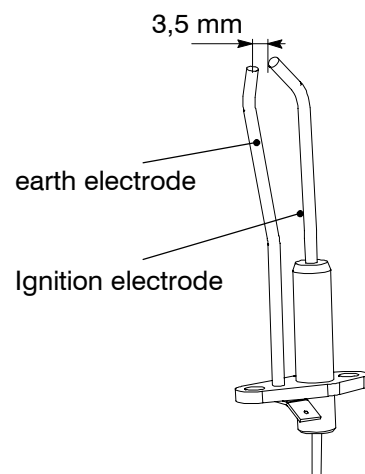
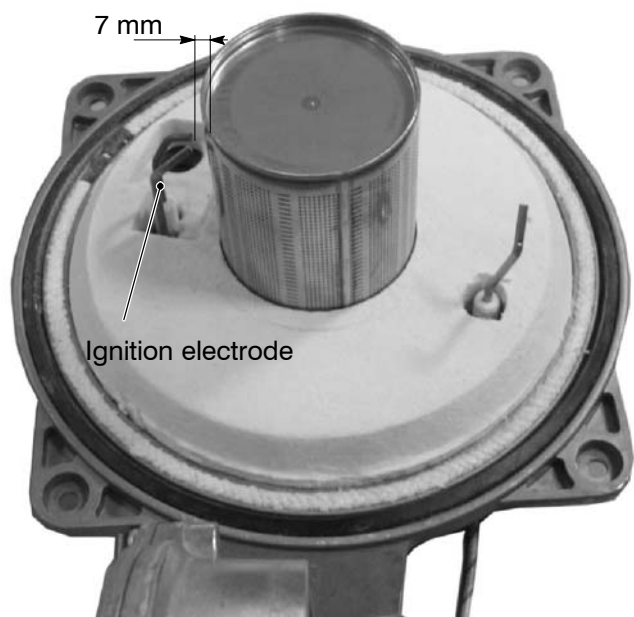

Fig. 18.9
Fig. 18.10
- 2 Check for the correct distance between the metallic edges of the ignition electrode (see Fig. 18.9 – Fig. 18.10).